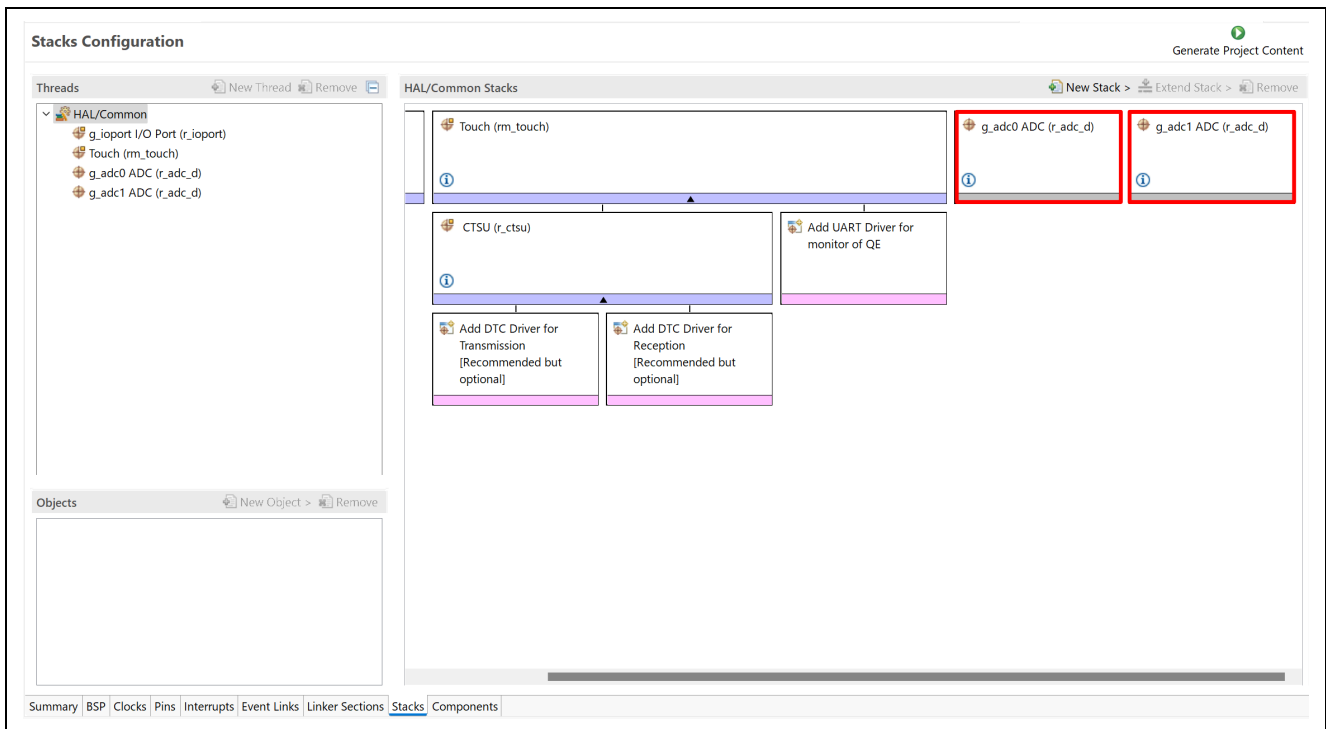

Figure 6-2 Add ADC drivers
4. As shown in Figure 6-2, add two ADC drivers